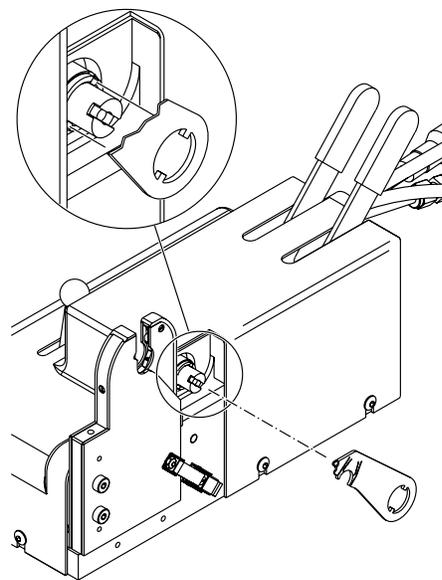

Figure 36 Aligning the Keyed Inner Clamp with the Notched Shaft
6. Align the keyed inner plate of the movable side plate with the notches in the shaft. See Figure 36.